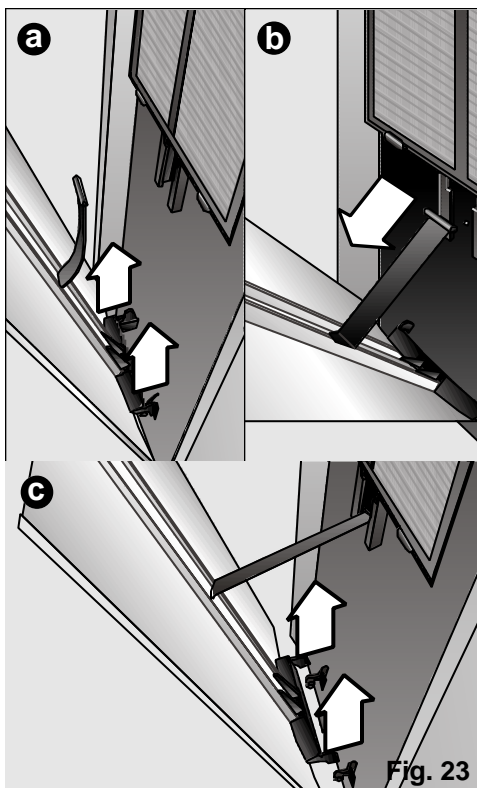

Fig. 23
- 1° Lift the flap until it comes out of its lower supports, (Fig. 23: a).
- 2° Position the plastic leg in the front groove on the appliance (in T position) and slide it down to the safety stop, (Fig. 23: b).
- 3° fit the lower studs in the front stops on the appliance making sure that the plastic leg fitted in the previous step does not come out of position, (Fig. 23: c).